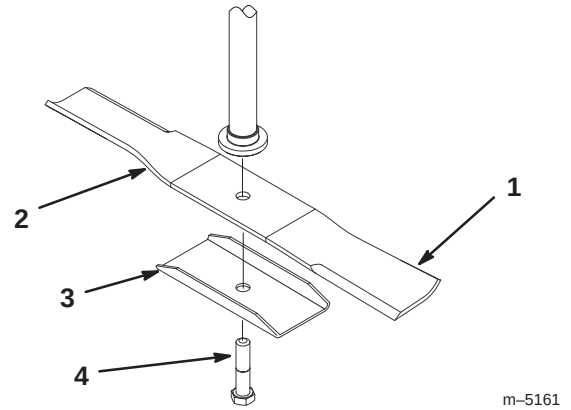
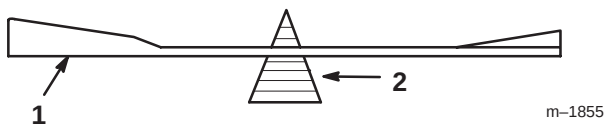

Figure 21
Figure 23
Hold the blade end using a rag or thickly-padded glove. Remove the blade bolt, stiffener, and blade from the spindle shaft (Fig. 21).
2. Check the balance of the blade by putting it on a blade balancer (Fig. 23). If the blade stays in a horizontal position, the blade is balanced and can be used. If the blade is not balanced, file some metal off the end of the sail area only (Fig. 21). Repeat this procedure until the blade is balanced.
1. Install the blade onto the spindle shaft (Fig. 21).
2. Install the stiffener and blade bolt (Fig. 21). Torque the blade bolt to 80–100 ft.-lb. (108–136 N·m).